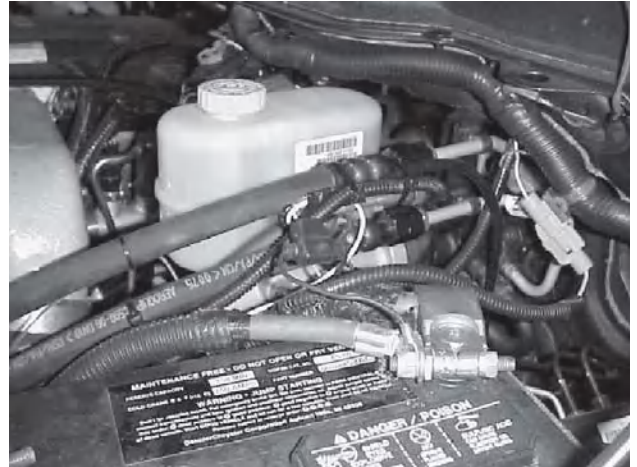

Fig. 15a
- a. Route the exhaust brake harness's Grey wire with the convolute around the battery and over to TIPM module. (see figure 15a)